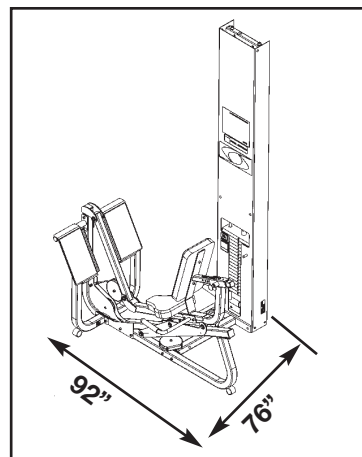

Figure 2
- E. For Modular/Tandem configurations, allow a minimum of 92" x 76" for operating space. See Figure 2.